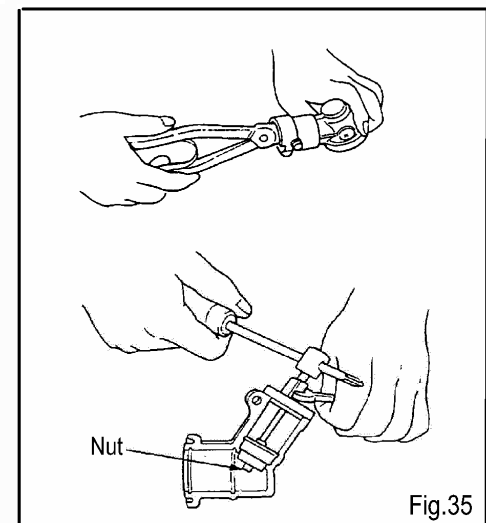

Fig.35
- 5) After removing gear shaft, remove stop ring which secures ball bearing. Fig.35